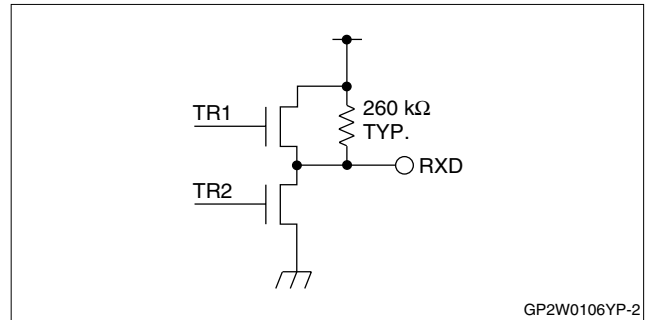

Figure 2. RXD Equivalent Circuit
- RXD pinout is a pullup (260 kΩ TYP.) to V_{DD} in shut-down mode. See Table 1 and Figure 2.